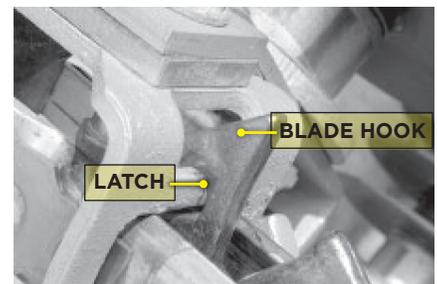

FIGURE 7
- The BP3 switch is properly closed when the blade hook is fully engaged with the latch portion of the blade stop as shown in **Figure 7**.